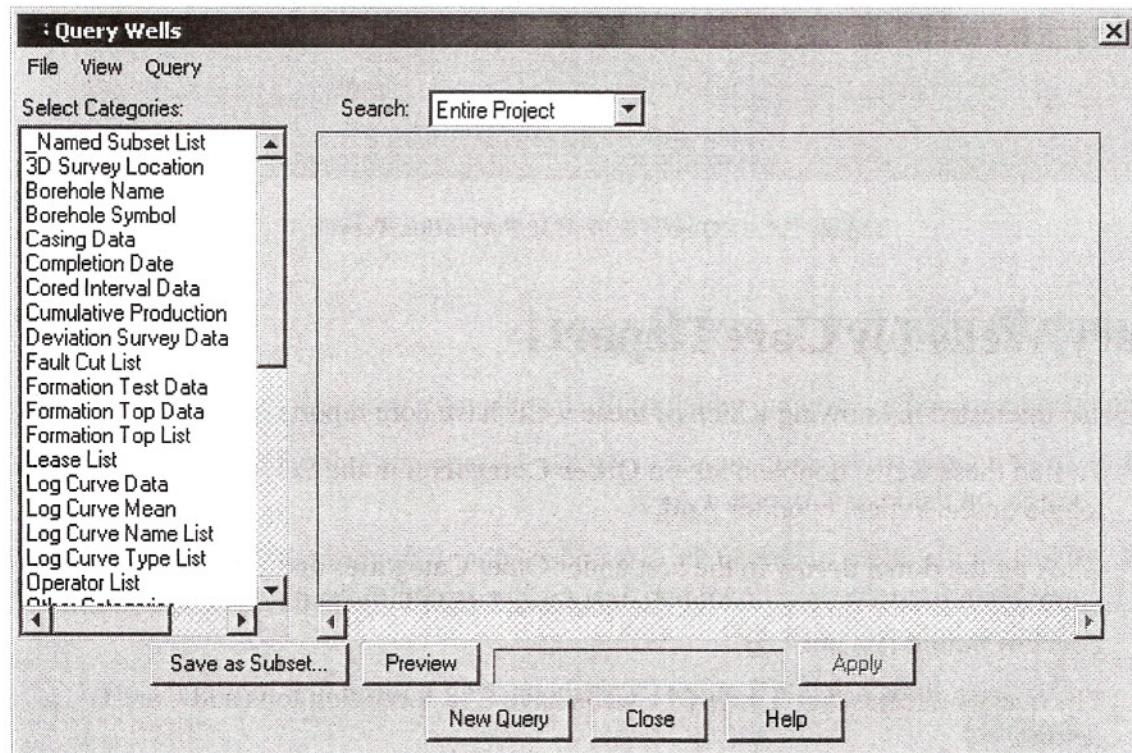

Figure 1.3 — Query Wells dialog box
1. From an active basemap window menu, click on **Wells > Select Wells to Display > By Query** to display the **Query Wells** dialog box (Figure 1.3).